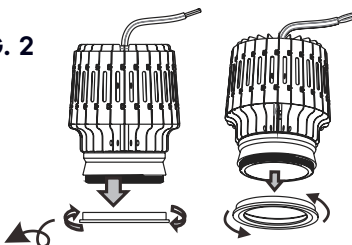

FIG. 3
9. Screw the LED module onto the selected trim (sold separately)/ (Fig. 3)